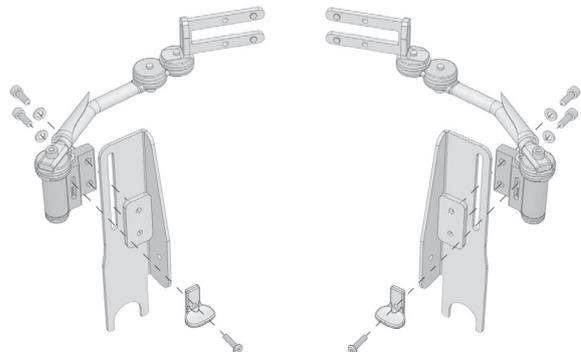

Fig. 18. Fitting the modified bracket and the release button.
3. Fit the trunk support on the modified bracket, fit the release button on the inner side of the Trunk support. See fig. 18.